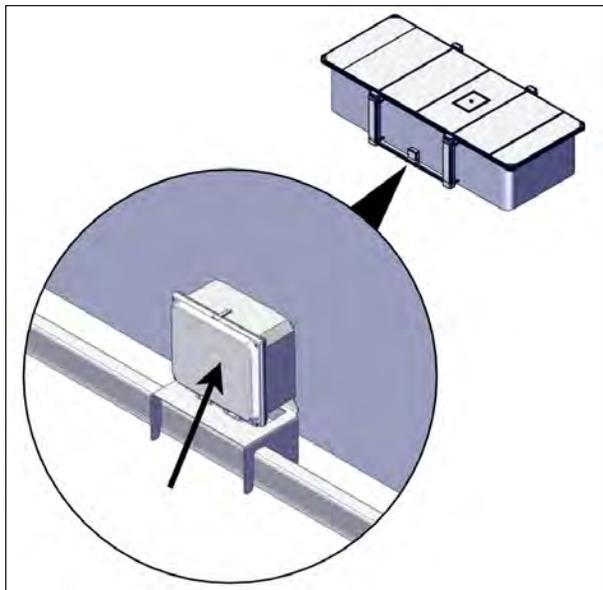

FIGURE 105: CONTROL BOX INSTALLATION
1. Install the pre-assembled control box and its holding bracket on one of the U-frames between the two sleeves, see Figure 105.
The AC control box must be installed in its vertical position. The connectors must face the ground, see Figure 105.